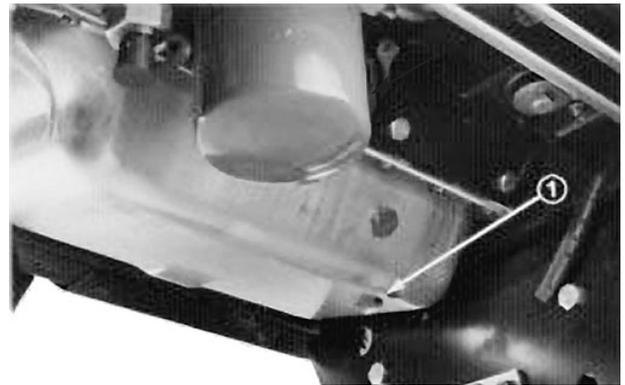

Figure 41
1. Remove the drain plug (Fig. 41) and let oil flow into drain the pan. When oil stops flowing, install the drain plug and a new plug seal.